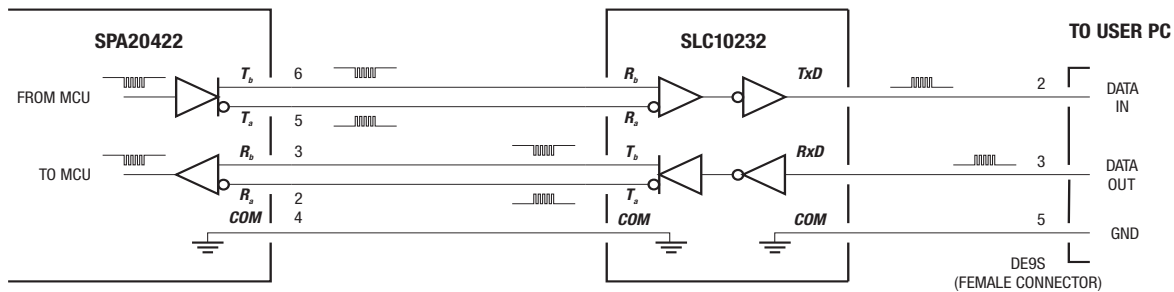

Figure 4. RS-422 to RS-232 (PC) Wiring Using an SLC10232 Signal Level Converter.
2.3 Connections to RS-232 Systems. A serial voltage level converter (such as the Microbotics SLC10232) may be used to interface the SPA20422 to an RS-232 port like those used on a PC or laptop computer. A typical connection to a PC-style serial port using an SLC10232 Serial Voltage Level Converter is shown in Figure 4.